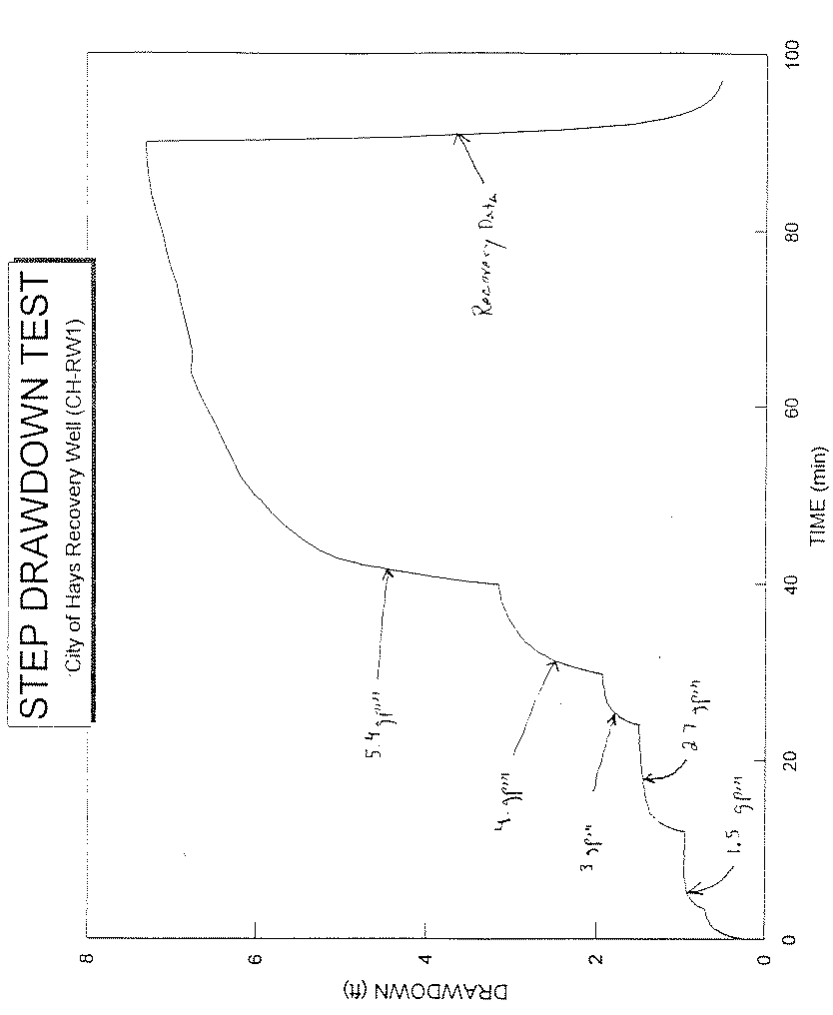

Figure 6: Results of step-drawdown test for well CH-RW-1. Pump rates are 1.5, 2.1, 3, 4 and 5.4 gallons per minute (gpm).
1. Use the step-drawdown test results (Fig. 6) to determine the appropriate pumping rate for a continuous PCE recovery system. What is that rate?
- (d) Estimate T using specific capacity ($\frac{Q}{s}$, Fig. 6 from step-drawdown test (easiest may be to use this online calculator
- ii. Load appropriate files (see item 2f below). This version of Aqtesolv allows only one observation well, so you'll need to